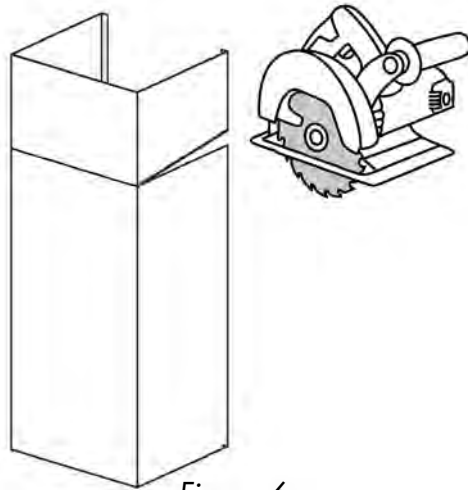

Figure 6
8. After precisely measuring the distance between the top of the range hood and your ceiling, have a trained professional cut your one-piece designer chimney to the desired length; you must leave a 2 1/4" (57 mm) gap between the chimney and ceiling in order to install the crown molding. *Figure 6*